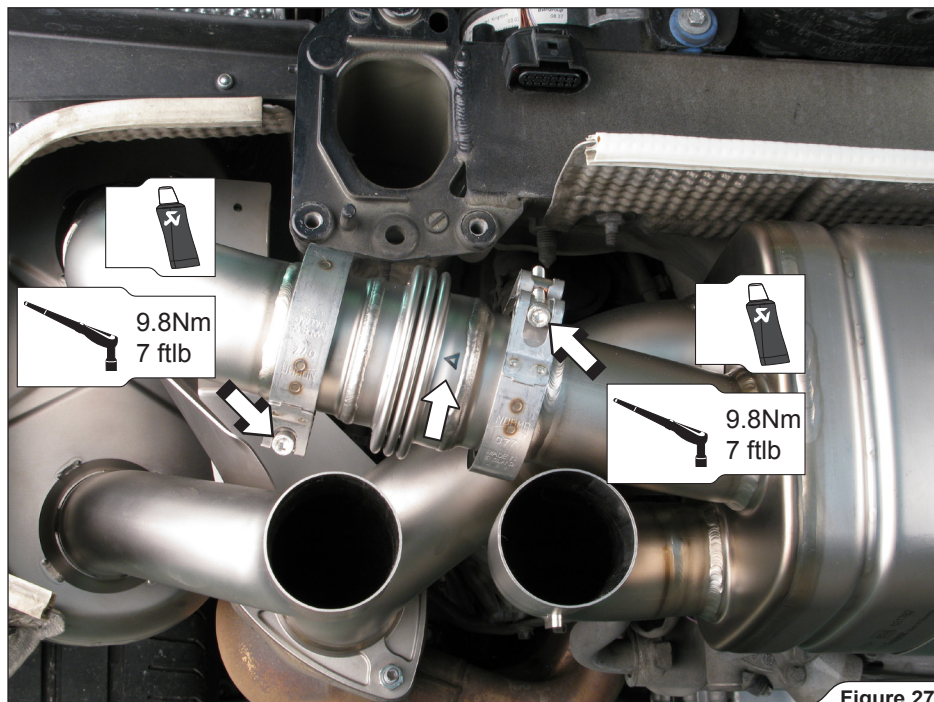

Figure 27
9. Insert the buffers correctly (**check the correct orientation of the marks!**), attach and orient the clamps exactly as shown and tighten the clamps to the specified torque (**Figure 27, 28**).